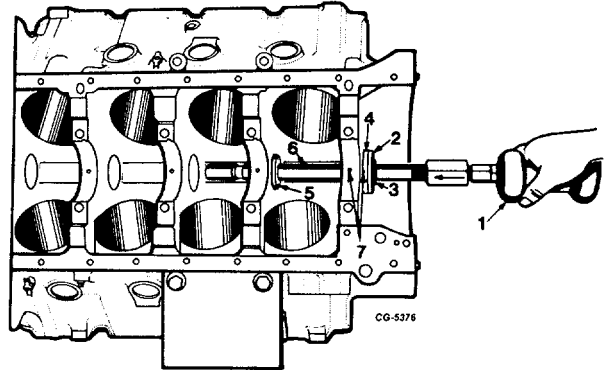

Fig. 83 Installing Front Bearing
12. Align the oil holes and drive in the front bearing, Figure 83.
11. Remove the bar and front adapter and position the new bearing on the front adapter. Slide the bar into the block and through the second adapter serving as a pilot, Figure 83.